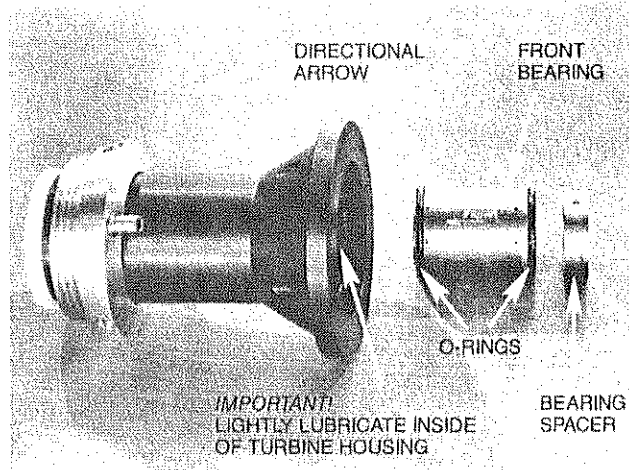

FIG. 26
6. Lubricate bearing lands, and install two lubricated O-rings over ends of front bearing. (Fig. 26).
7. Note the directional arrow on the front bearing. Make sure the arrow faces towards the front of the turbine (Fig. 26).